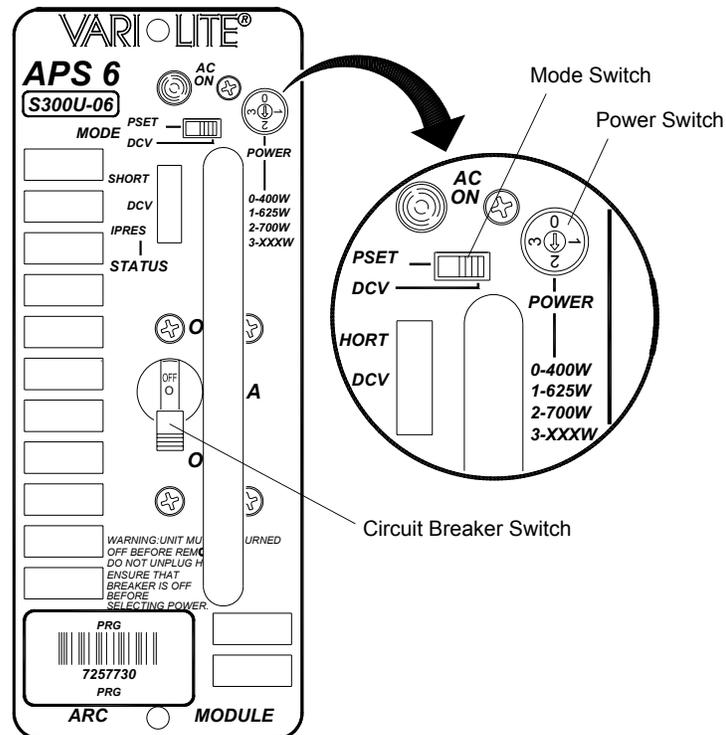

Figure 2-10: APS6 Module
- Step 1. At face of APS6 module(s), set rotary power switch to the 700W position (**Figure 2-10**).